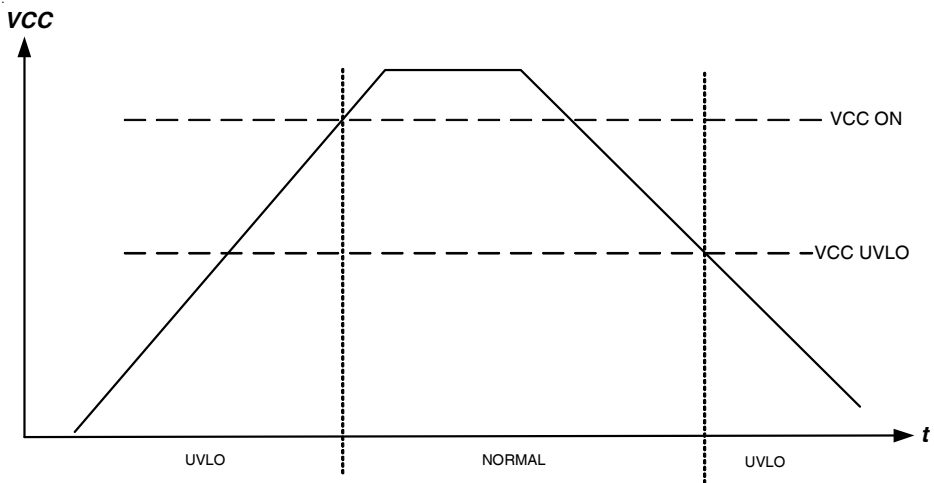

Fig. 14 -  $V_{CC}$  Under Voltage Lockout
**Fig 14.** Max  $V_{CC}$  Voltage vs. Synchronous Rectifier Switching Freq,  $T_J=125^\circ C$ ,  $T_{IC} = 85^\circ C$ , external  $R_G=6\Omega$ ,  $1\Omega$  HEXFET Gate Resistance included